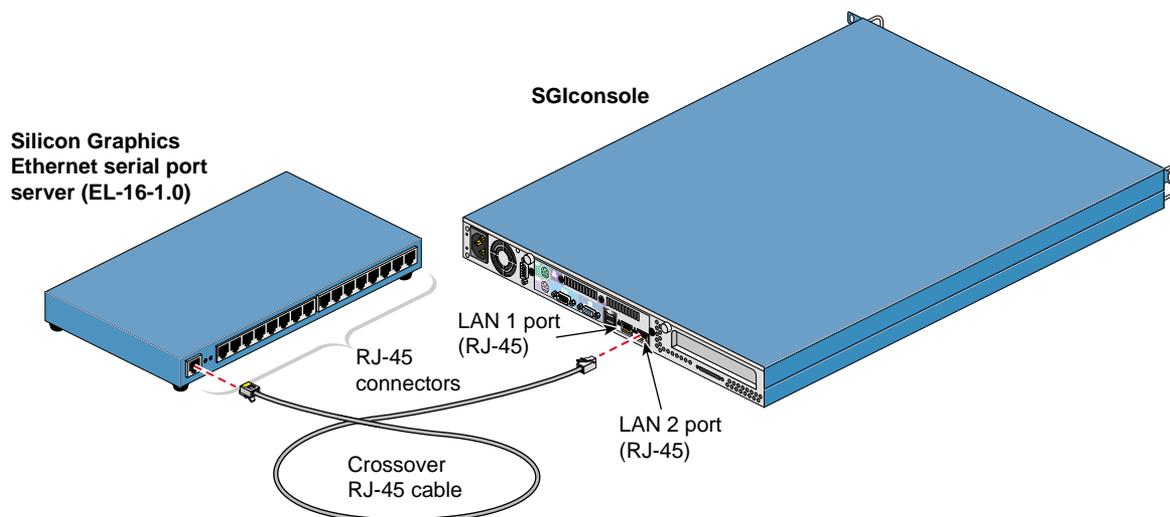

Figure 2-10 Connecting SGIconsole to the Silicon Graphics EL Serial Port Server
4. If you have not already done so, connect one end of the crossover RJ-45 cable to the **LAN 2** port RJ-45 jack on your SGIconsole, and connect the other end to the leftmost RJ-45 jack on the Silicon Graphics EL serial port server. See Figure 2-10.